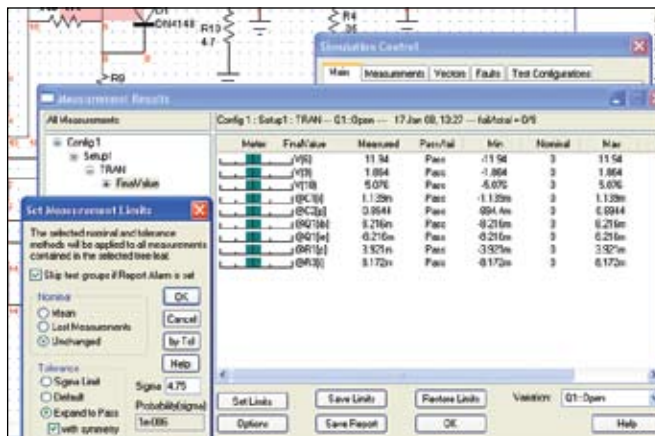

Fig. 6. The expand-to-pass option is set "with symmetry," which opens the pass/fail limits of Q1 open to pass all measurements.
A useful feature is the ability to quickly expand test limits in any number of ways following fault simulation (**Fig. 6**). Recall earlier that after a fault run, specific test limits were not yet established. Now the "expand to pass" option (left dialog) provides ways to open min/max test limits for all
3. Expand to pass, which sets the measured value as the high or low limit depending on the sign, or both minimum and maximum limits symmetrically if the "with symmetry" box is checked as in **Fig. 6**.
Once the designer specifies the test limits, the new limits can be used to study test-limit compliance with successively selected faults — that is, seeing how other faults' measured results comply with the new test limits. For example, **Fig. 6** shows test limits expanded for a Q1 open fault, so that all monitored signals and devices pass. But when selecting our former R7 stuck-at fault, three of the pass/fail histograms change color (failed red) despite the new expand-to-pass limits for Q1 open. **Fig. 6** shows all devices and signals in a pass condition for Q1 open.